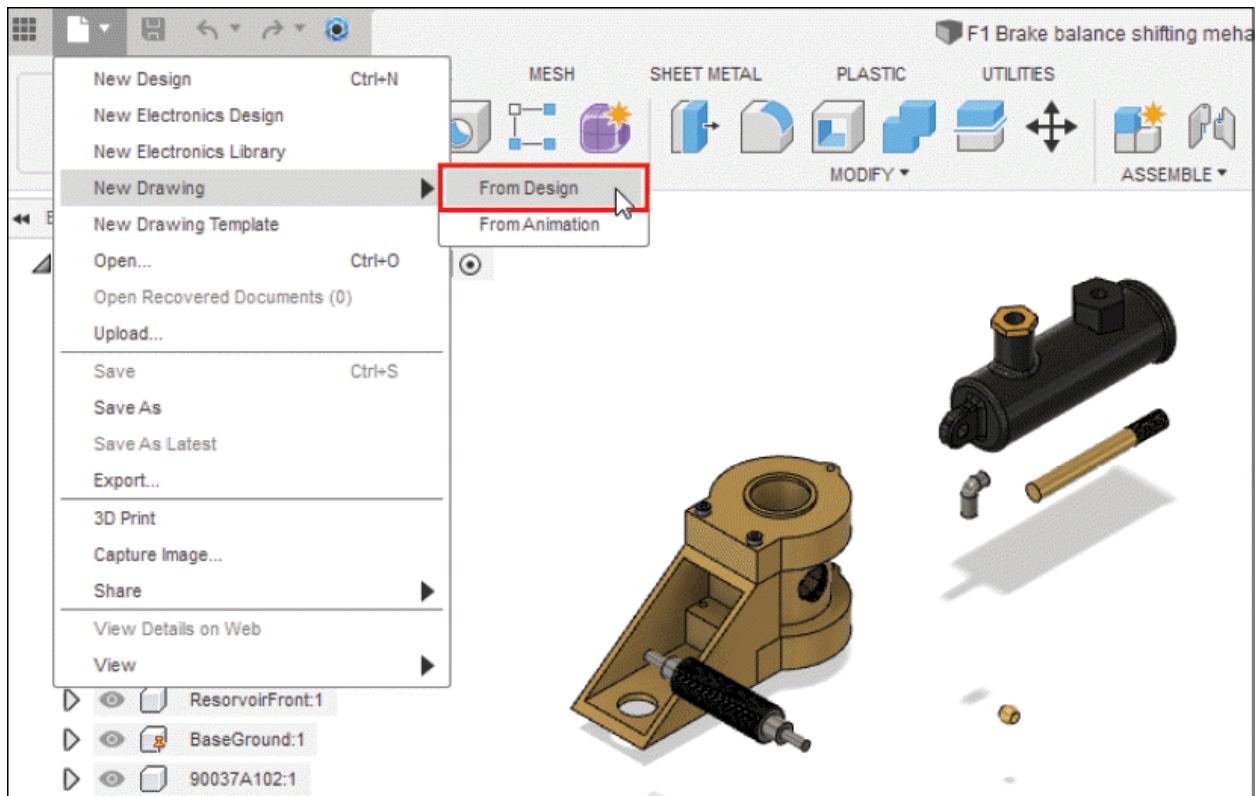

Figure-155. Starting new drawing
- Click on the **From Design** option from **New Drawing** cascading menu of the **File** menu; refer to Figure-155. The